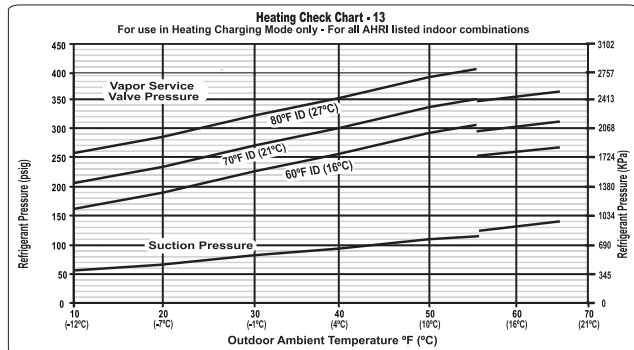

Fig. 27 – Heating Pressure Check Chart 288BNV013
**Heating Check Chart Procedure (See Fig.27 - 33)
To use the Heating Check Chart, the user interface (UI) must be in Refrigerant Charging mode selected from the Installation and Service screen. The Charging Mode Selection screen will show selections for Weigh-In Charge Method or Heating Check Charge Method. Select Heating Check Charge Method. The Heating Check Charge method will only be displayed if the conditions are right for checking the charge in heating mode. When Heating Check Charge Method is selected, the system will operate by running in stage 5 with appropriate outdoor fan speed and indoor airflow. Upon completion of a countdown period for system stabilization, check refrigerant pressures for the appropriate ambient temperatures shown in Fig. 27 through 33 based the OD unit size.